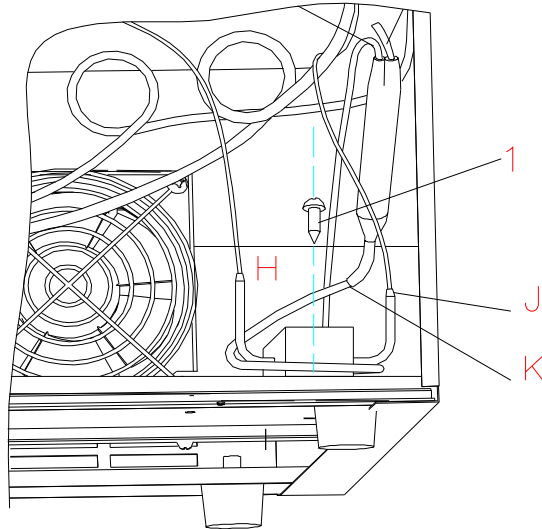

Fig. 9
b. The refrigerator valve damage and can not be switch, cause not cooling, replace with the new one.(Fig.9)
- A. Use welding facility to heat the 3 welding point H, K, J, and then take off the refrigerant valve. (Fig. 9)
- B. Use the cross screwdriver to wrest the refrigerant welding screw 1 (totally 2pcs, another isn't show in the picture.) ; (Fig.9)